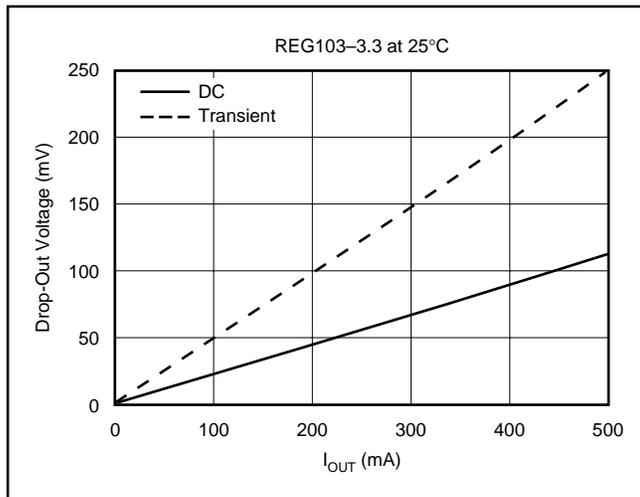

FIGURE 10. Transient and DC Drop-out.
The REG103 uses an N-channel DMOS as the “pass” element. When the input voltage is within a few hundred millivolts of the output voltage, the DMOS device behaves like a resistor. Therefore, for low values of  $V_{IN}$  to  $V_{OUT}$ , the regulator’s input-to-output resistance is the  $R_{DS(ON)}$  of the DMOS pass element (typically 230mΩ). For static (DC) loads, the REG103 will typically maintain regulation down to  $V_{IN}$  to  $V_{OUT}$  voltage drop of 115mV at full-rated output current. In Figure 10, the bottom line (DC dropout) shows the minimum  $V_{IN}$  to  $V_{OUT}$  voltage drop required to prevent drop-out under DC load conditions.
For large step changes in load current, the REG103 requires a larger voltage drop across it to avoid degraded transient response. The boundary of this “transient drop-out” region is shown as the top line in Figure 10. Values of  $V_{IN}$  to  $V_{OUT}$  voltage drop above this line insure normal transient response.